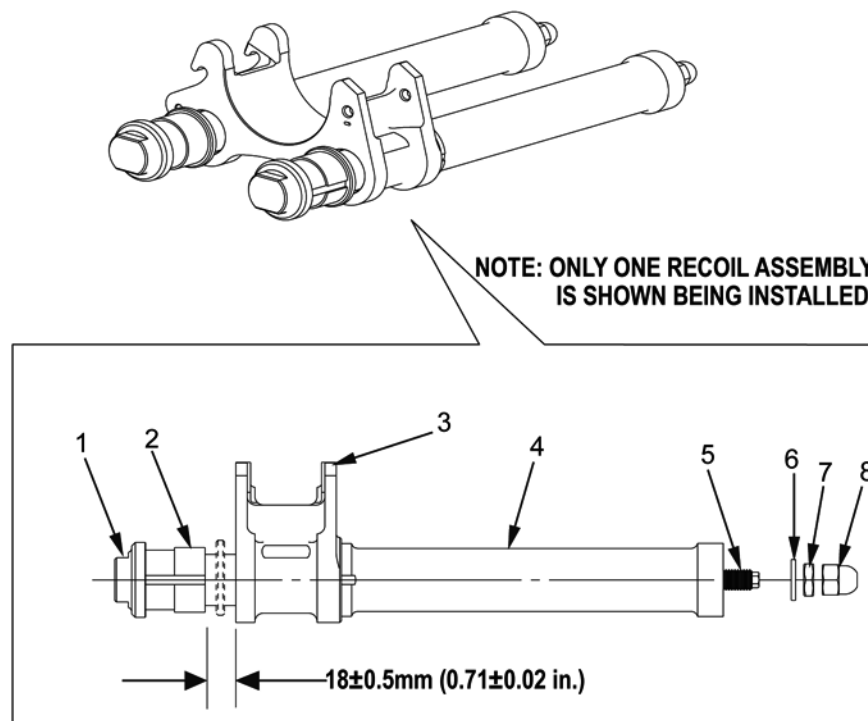

Figure 7. Adjustment of Recoil Mechanism Buffer.
15. Adjust threaded rod end (Figure 7, Item 5) to achieve 18 ± 0.5 mm (0.71 ± 0.02 in.) spacing.
- a. Ensure that recoil endcap (Figure 7, Item 1) is installed on end of recoil mechanism (Figure 7, Item 2). Tighten endcap by hand until snug.
- b. Using wrench, rotate threaded end rod (Figure 7, Item 5) counterclockwise until resistance can be felt.
- c. Grasp recoil mechanism (Figure 7, Item 2) with one hand and recoil housing (Figure 7, Item 4) with other hand and firmly pull apart. Allow recoil mechanism to return to resting position. Verify recoil mechanism is in full return position by applying hand pressure toward barrel clamp (Figure 7, Item 3).
- d. Slowly rotate threaded end rod (Figure 7, Item 5) clockwise to adjust. Measure gap between recoil mechanism (Figure 7, Item 2) and barrel clamp (Figure 7, Item 3) while making adjustments until 18 mm (0.71 in.) gap is achieved. The 18 mm (0.71 in.) gap should only be met while making adjustments in the clockwise direction. If adjustments are made beyond 18 mm (0.71 in.), return to step b and repeat steps.
16. Install flat washer (Figure 7, Item 6), hexagon plain nut (Figure 7, Item 7), and cap plain nut (Figure 7, Item 8). Counter tighten to lock in place.
17. Remove recoil endcap (Figure 7, Item 1).